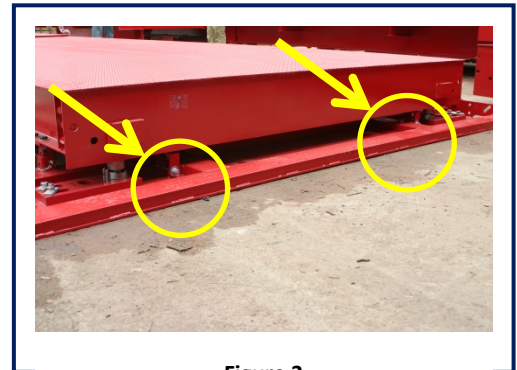

Figure 3
a. Once the center module is set in place, identify the four (4) interior tie-down brackets. These brackets are located at both ends of the module just behind the end weldment. There are two L-shaped bracket assemblies at each end weldment. These L-shaped brackets connect the sub-frame to the scale module. See Figure 3.